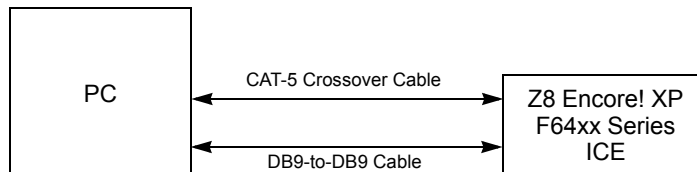

Figure 1. Connecting a PC to the Z8 Encore! XP[®] F64xx Series ICE
2. Connect the CAT-5 crossover cable from the PC to the Ethernet port on the Z8 Encore! XP[®] F64xx Series ICE. See Figure 1.